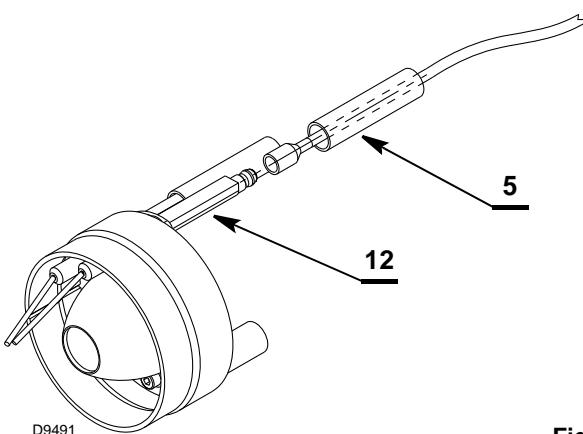

Fig. 28
- Thread the wires 5) (Fig. 28) in the electrodes 12), and check that the seal between cable-electrode terminals is properly fixed (if necessary, fasten the cable terminals); then, protect the terminals with the insulating tubes.